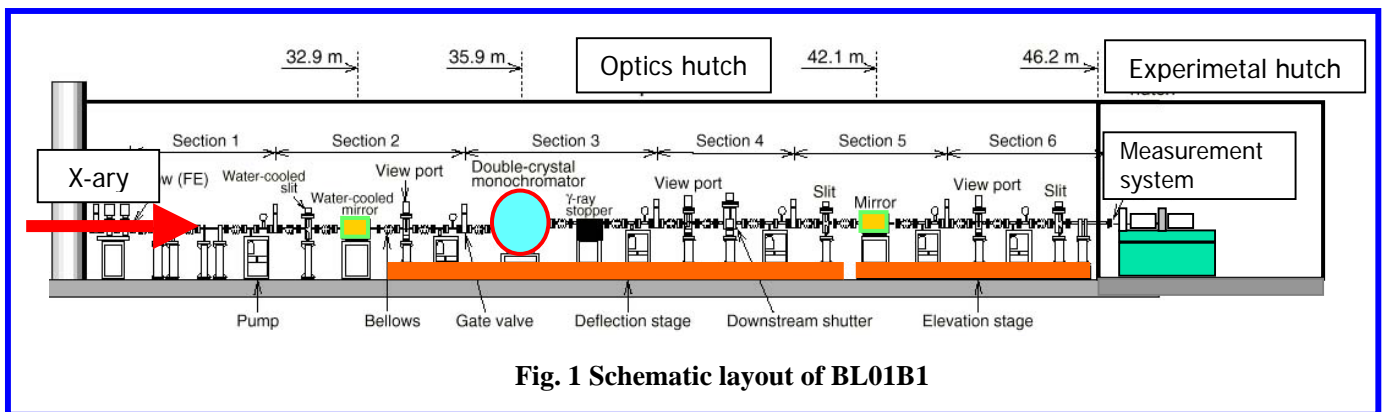
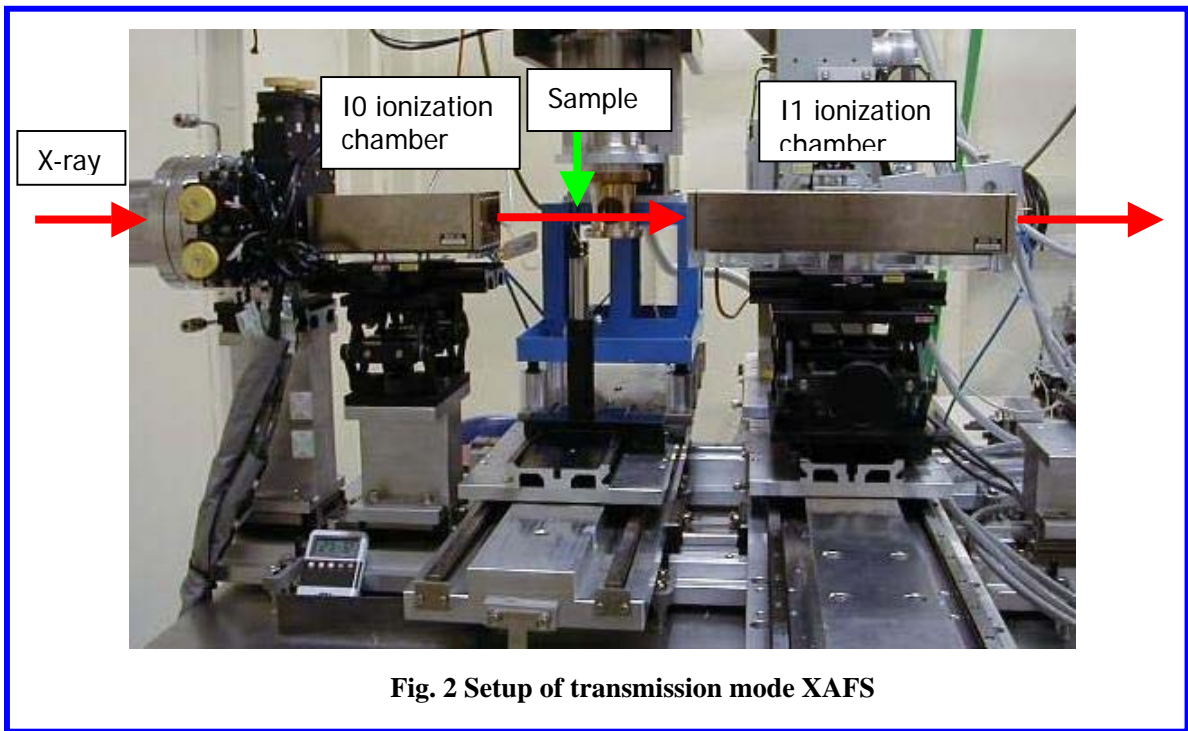

Fig. 1 Schematic layout of BL01B1
Fig. 2 Setup of transmission mode XAFS
- Figure 1 shows schematic layout of BL01B1.
- Switch of diffraction plane of monochromator crystals between Si(111), Si(311) and Si(511) to cover energy range for XAFS measurements.
- Fine adjustment of slits and mirrors in the optics hutch is done by measuring x-ray intensity using 1st ionization chamber in the experimental hutch (Fig. 2).
- The arrangement and control system for transmission mode Quick XAFS measurements are shown in Figs. 2 and 3.